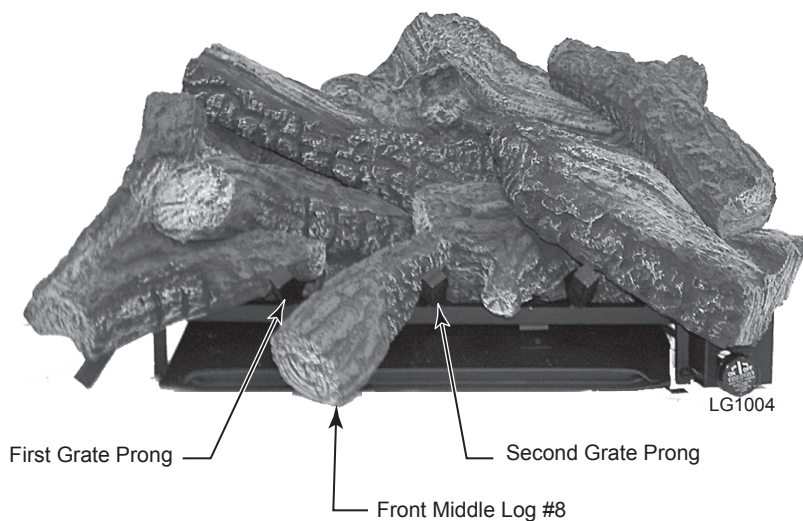

Figure 13
8. Place front middle log (#8) between the first and second prongs. *Figure 13*